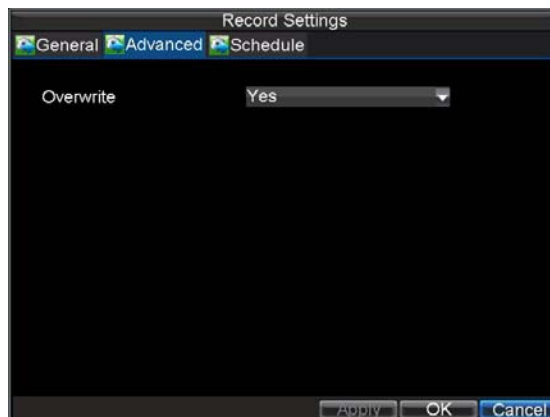

Figure3. Advanced Record Settings
5. Press the 3DEF/F2 button on DVR front panel to select the Advanced tab to access the Advanced Settings submenu, shown in Figure 3.